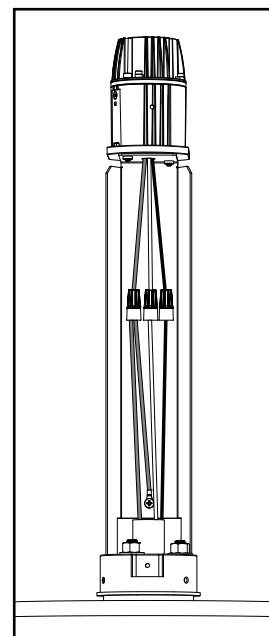

Figure 6.
1. Pull line-voltage wire leads through the conduit and fixture base and make connection to component frame assembly input leads (LED module shown) (Figure 6.) Connect supply wires to appropriate luminaire leads.